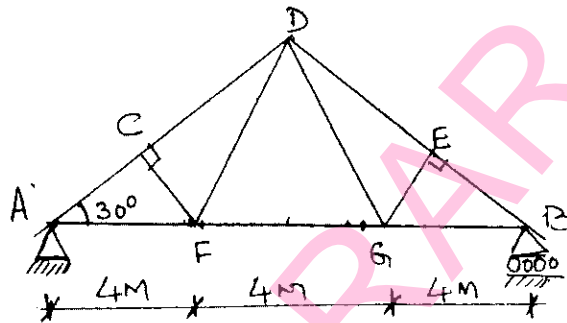

Fig. Q3
- 3 Design a roof truss in figure shown below Fig. Q3 with forces in each member along with its nature of forces in different members of the truss are given in table Q3. The size of the RC column supporting the truss is  $300 \times 300$  mm. Use M20 concrete for column. Design the truss using bolts of M16, property class 5.6 for connections and also design anchor bolts for an uplift force of 15 kN @ each support.